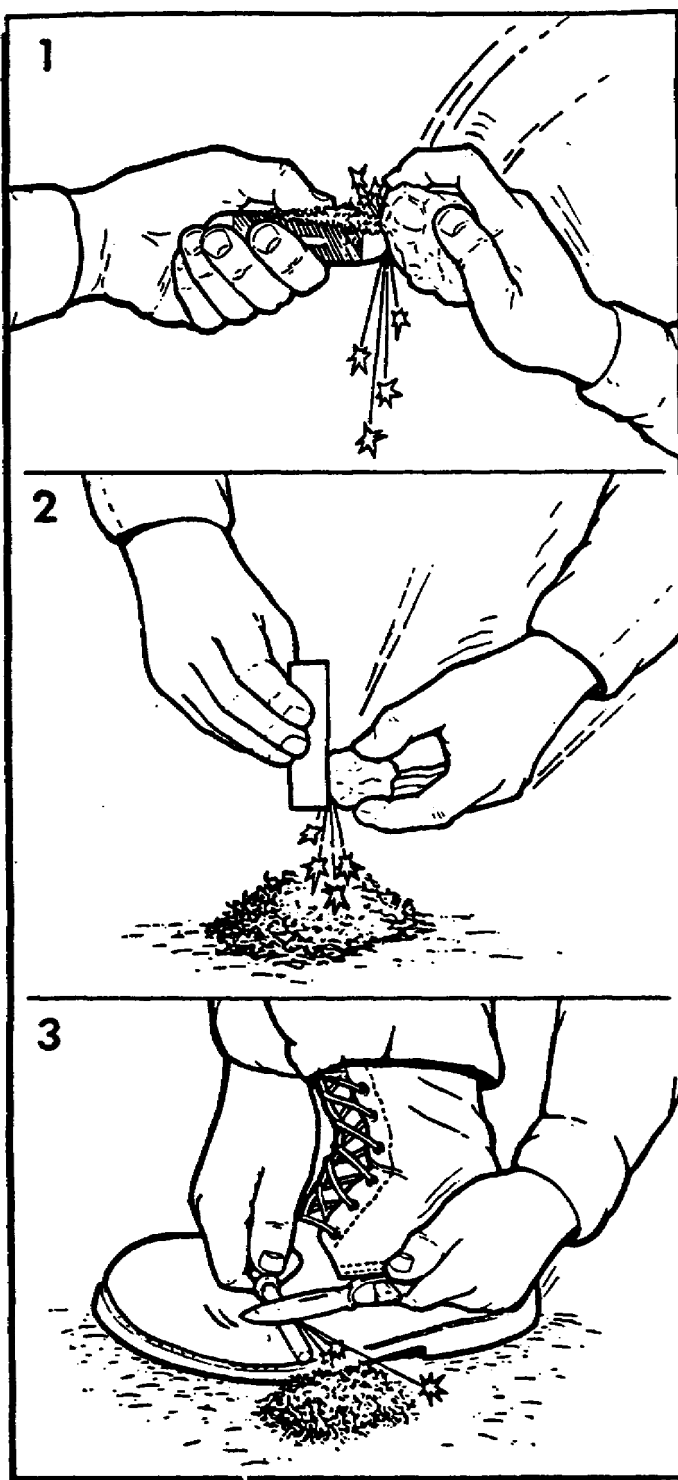

Figure 47. Fire starting with flint and steel.
(2) Flint and steel. Flint and steel is one way to produce fire without matches. To use this method, hold a piece of flint in one hand above the tinder. Then grasp the steel in the other hand and strike the flint with the edge of the steel in a downward glancing blow (Figure 47). The sparks must fall on the tinder and then be blown or fanned to produce a coal and subsequent flame. Cotton balls dipped in petroleum jelly make excellent tinder with flint and steel. When the tinder ignites, add additional tinder, kindling, and fuel.